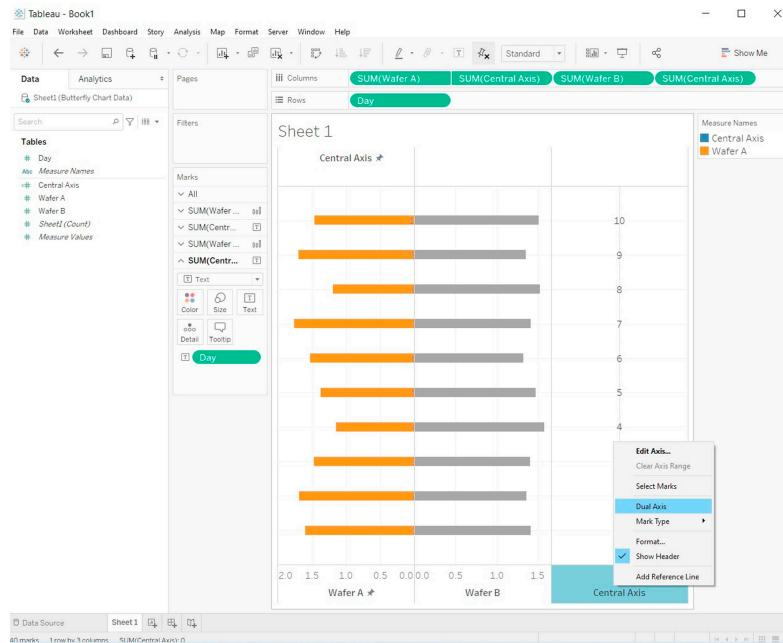

FIGURE 2.39 Step 17 in Section 2.3.
**Step 17:** Right-click around “Central Axis” then check “Dual Axis” for the Central Axis (Figure 2.39).